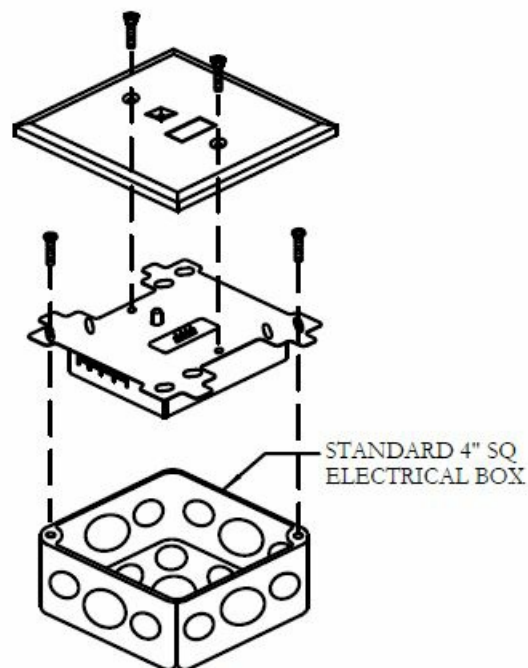
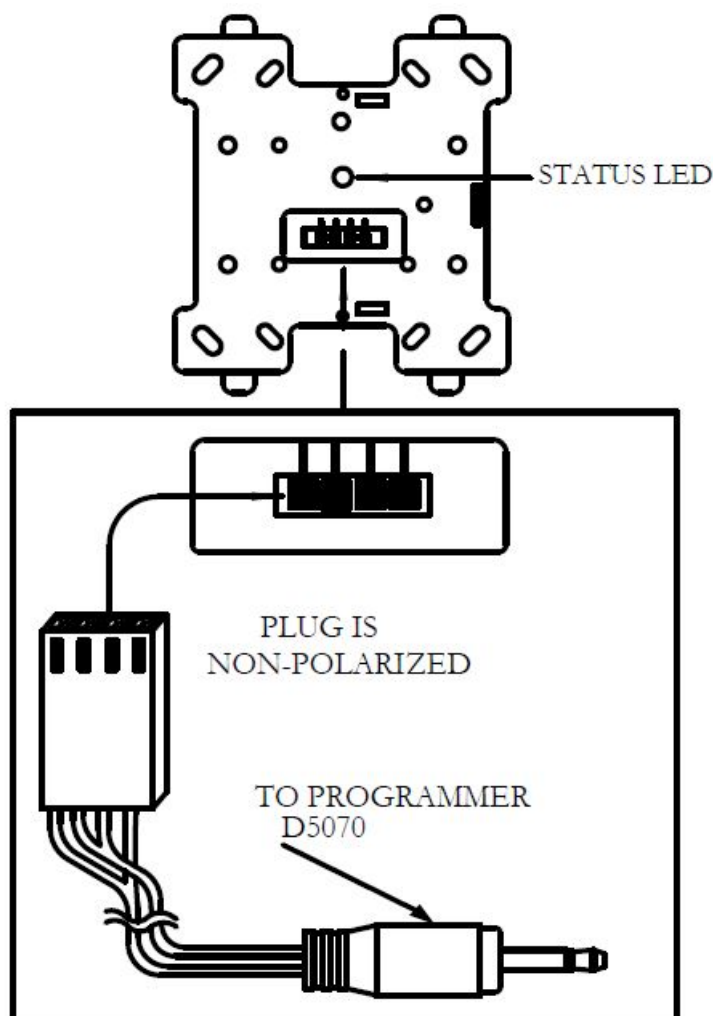

FIGURE 2
FIGURE 1.
All wiring must conform to local codes, ordinances, and regulations. The module wiring should be installed according to the job drawings and appropriate wiring diagram (see Fig.3). The module should be securely attached to a U.L.-listed electrical box as shown in Figure 2. The address must be set before attaching the cover plate (see Figure 1).
1. Follow the mounting requirements as shown in Figure 2.
3. Securely attach the module to a U.L. listed electrical box as shown in Figure 2.
4. Set the address before attaching the cover plate (see Figure 1).
- The DCP Dual Input Monitor module is mounted as shown in Figure 2 on page 2 of this instruction.
- Secure the module to a U.L.-listed electrical box (supplied by the installer), as shown in Figure 2.
- The address must be set before the cover plate is attached (see Figure 1).